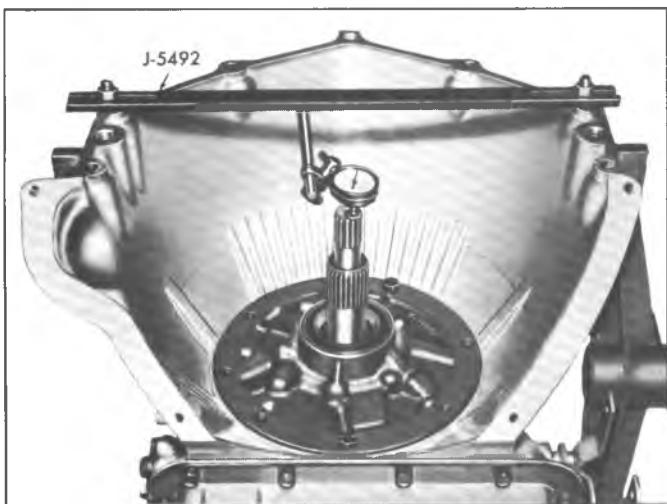

Fig. 32PG-Checking End Play for Proper Thrust Washer Selection
- a. Mount a dial indicator so that plunger of indicator is resting on end of the input shaft. J-5492 may be used to support the dial indicator as shown in Figure 32PG. Zero the indicator.